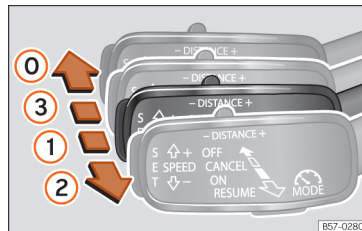
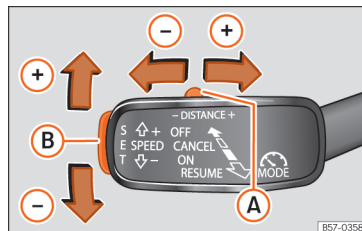

Fig. 157 On the left of the steering column: operating the ACC with the third lever.
Fig. 158 On the left of the steering column: operating the ACC with the third lever.
Your vehicle has ACC if it has a third lever to the left of the steering column »» Fig. 157.
- Move the third lever to position **ON** » **Fig. 157** ①
- To start regulation, press button **SET** »» Fig. 158 (B) or move the lever to position **RESUME** »» Fig. 157 (2).
To set the speed, move the third lever up + or down - to the desired speed »» Fig. 158. The speed is adjusted at intervals of 10 km/h [5 mph].
When the ACC is active, the lever can be moved to position **RESUME** »» Fig. 157 (2) to increase the desired speed by 1 km/h [1 mph]. You can then press **SET** to decrease it by 1 km/h [1 mph].
- Move button (A) »» Fig. 158 right or left to increase or decrease the distance.
- Move the third lever to position **CANCEL** »» Fig. 157 (3) or press the brake pedal.